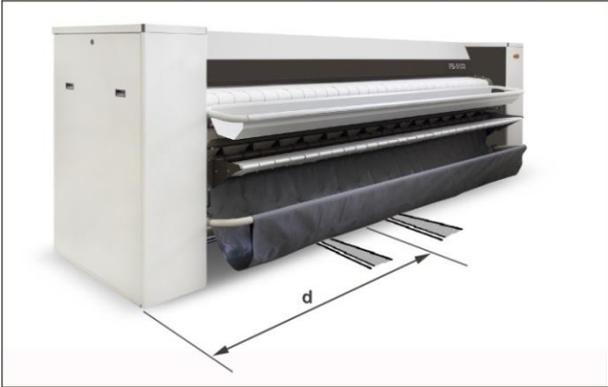

Fig. 2.3
Before moving the machine, make sure the items to be used are suitable and capable of bearing its weight. The weight of the machine and the position of centre of gravity indicated by the distance **d** in Figure 2.3 (see Section 2.4) should be taken into account at all times.
**Fork-lift truck.** Figure 2.3.